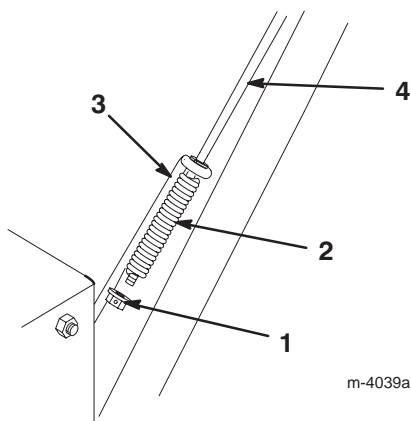

Figure 7
1. Slide the spring over the bottom of the upper traction rod (Fig. 7).
2. Thread a flange locknut (flange side up) onto the bottom of the upper traction rod below the spring (Fig. 7).